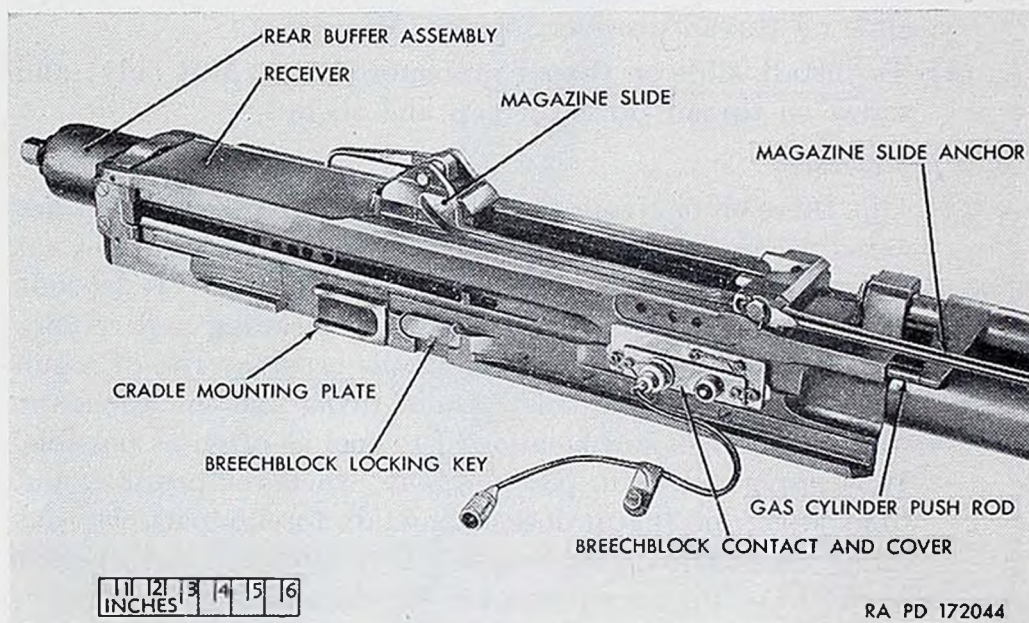

Figure 94. Receiver—top-right view—gun M24.
a. *General* (figs. 94 and 95).
- (1) The receiver houses the breechblock assembly and most of the working parts of the gun. The gun tube screws into the front of the receiver, the rear buffer assembly slides into dovetail grooves in the rear, and the magazine slide is housed in guide-ways on top of the receiver.
- (2) Empty cartridge cases are ejected through an opening in the bottom of the receiver. Above the ejector opening are